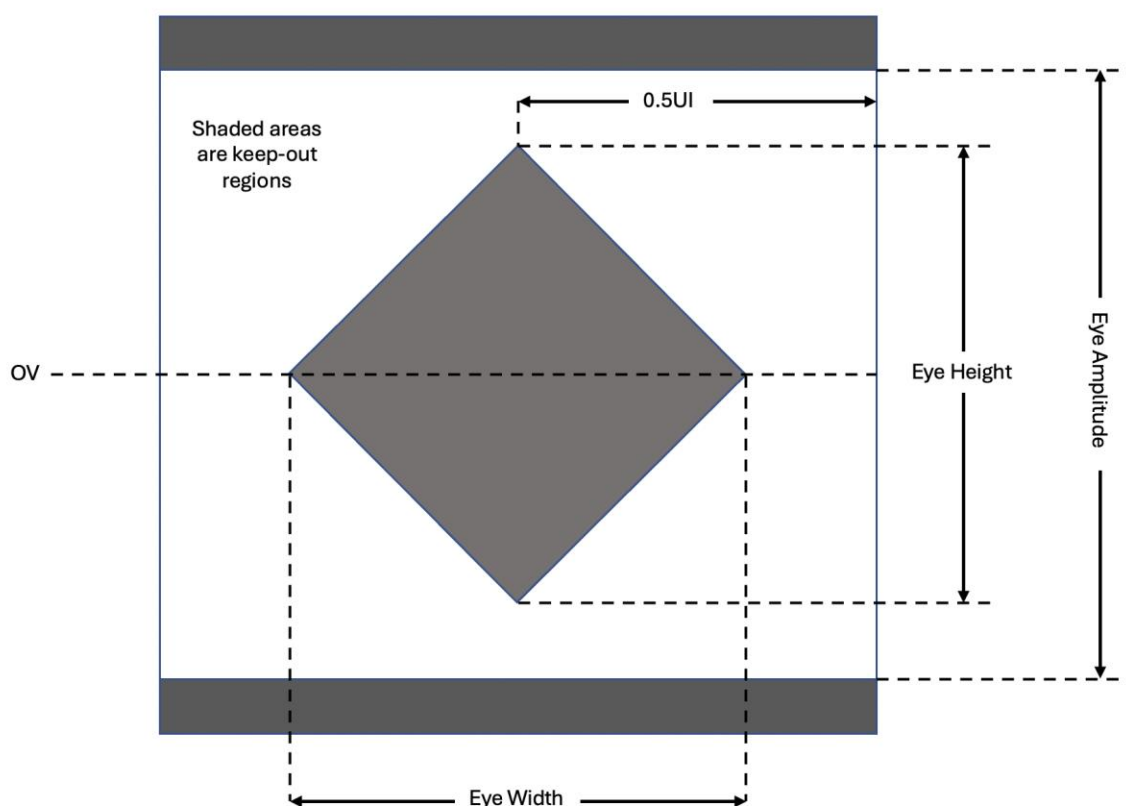

Figure 2 - EYE Diagram
- Inner eye width = 100ps Minimum for GEAR3, 60ps for GEAR4 and 30ps for GEAR5 (Figure 2).
- Inner eye height = 90 mVpp Minimum (Figure 2)
- Eye Amplitude = 620 mV (Figure 2)
- Maximum differential signal amplitude 620 mVpp (Figure 2)
FIGURE 2 shows the EYE diagram requirements at the probing point for GEAR3, GEAR4, GEAR5 signal rates.